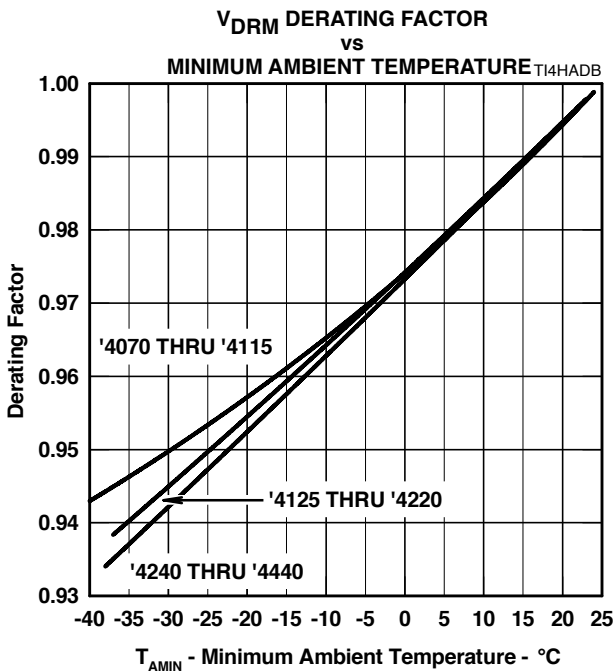

Figure 10.
- NOTES: 1. See Applications Information and Figure 10 for voltage values at lower temperatures.
Figure 10 allows the calculation of the protector  $V_{DRM}$  value at temperatures below 25 °C. The calculated value should not be less than the maximum normal system voltages. The TISP4265H3BJ, with a  $V_{DRM}$  of 200 V, can be used for the protection of ring generators producing 100 V r.m.s. of ring on a battery voltage of -58 V (Th2 and Th3 in Figure 17). The peak ring voltage will be  $58 + 1.414 \times 100 = 199.4$  V. However, this is the open circuit voltage and the connection of the line, and its equipment will reduce the peak voltage. In the extreme case of an unconnected line, clipping the peak voltage to 190 V should not activate the ring trip. This level of clipping would occur at the temperature when the  $V_{DRM}$  has reduced to  $190/200 = 0.95$  of its 25 °C value. Figure 10 shows that this condition will occur at an ambient temperature of -22 °C. In this example, the TISP4265H3BJ will allow normal equipment operation provided that the minimum expected ambient temperature does not fall below -22 °C.